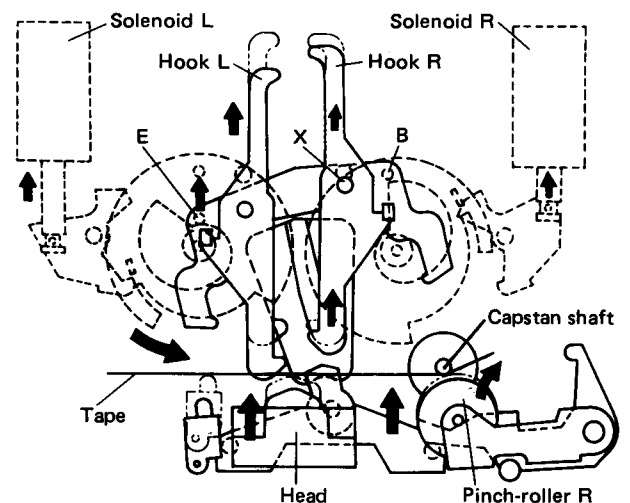

Fig. 1-15 PAUSE-PLAY operation 5
3. When point E reaches the same height as point B, it stops. The head and pinch-roller at this point is shown in Fig. 1-15. Here, since the E point has reached the same height as the B point, the X point rises higher than that of the PAUSE status. Consequently, the head makes contact with the tape, and the tape is pinched between pinch-roller R and the capstan shaft, completing PLAY mode entry.